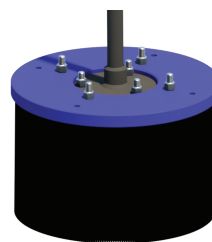

Figure 36
**4.0.7)** Thread a locknut onto the screw to tightly secure the centering ring to the cutter. Repeat for the other three screws (see Figure 36).